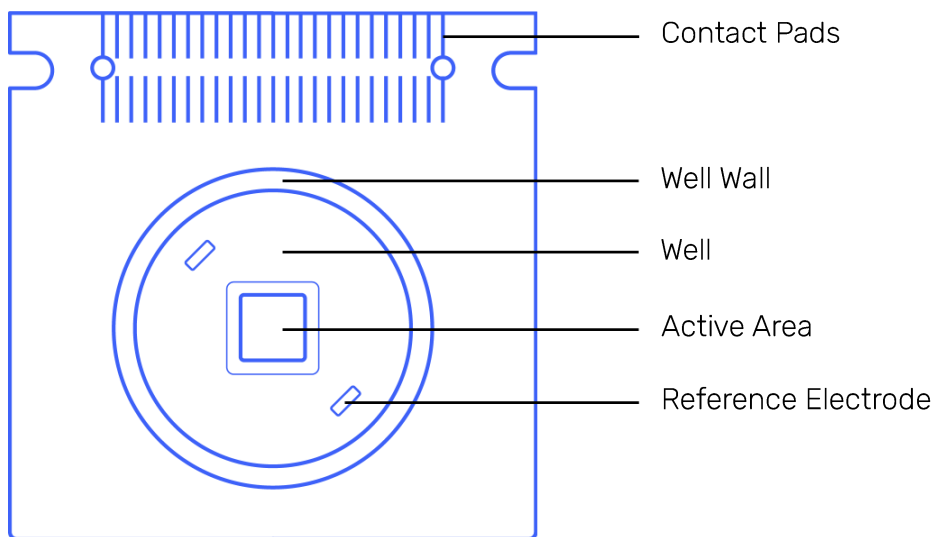

Figure 1: Diagram of CorePlate™ 1W-3D displaying the Contact Pads, Well and Active Area.
- Do not touch the contact pads on the front of the chip (see Fig. 1). Always handle CorePlate™ 1W-3D by using plastic gloves.
- Do not touch the Active Area (see Fig. 1) of the microchip integrated in the CorePlate™ 1W-3D with any tools. The 3D electrode pillars are delicate and prone to damage.
- Before inserting CorePlate™ 1W-3D into the BioCAM Duplex, clean the contact pads on the front of CorePlate™ 1W-3D (see Fig. 1) with a lint-free wipe soaked in isopropanol (IPA)>99.5% and let it dry for a few seconds.
1. **Rinse Wells with 70% EtOH.** Rinse the well of CorePlate™ 1W-3D (Fig. 1) thoroughly with 70% EtOH and delicately flush the liquid on the Active Area with a Pasteur pipette.
4. **Soak Well in PBS & Clean Reference Electrodes.** After rinsing with PBS, fill the well with PBS. Carefully remove any air bubbles trapped in the Reference Electrodes (Fig. 1) and leave to soak for 5 minutes.